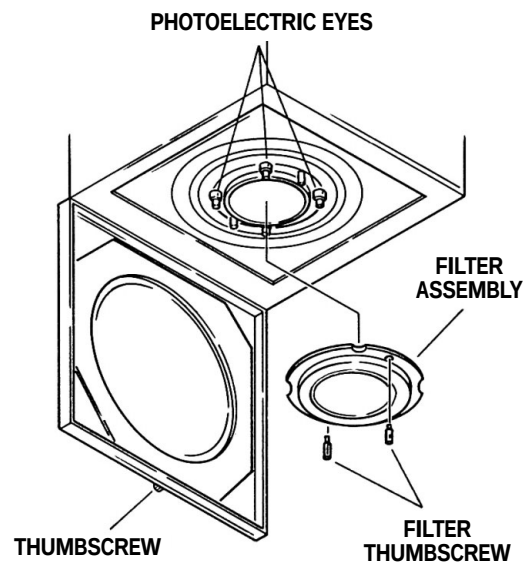

Figure 2-3.
1. Loosen the thumbscrew securing the diffuser cover and lower the cover. See Figure 2-3.